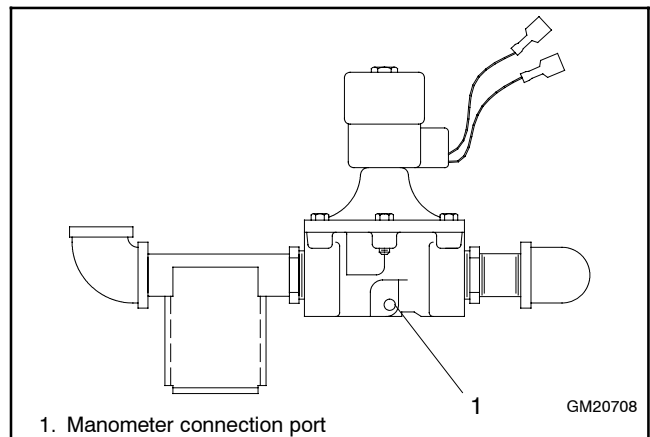

Figure 9-46 Solenoid Fuel Valve Manometer Port
- a. Remove the 1/8 NPT pipe plug from the solenoid fuel valve located at the generator set fuel inlet connection. See Figure 9-46.